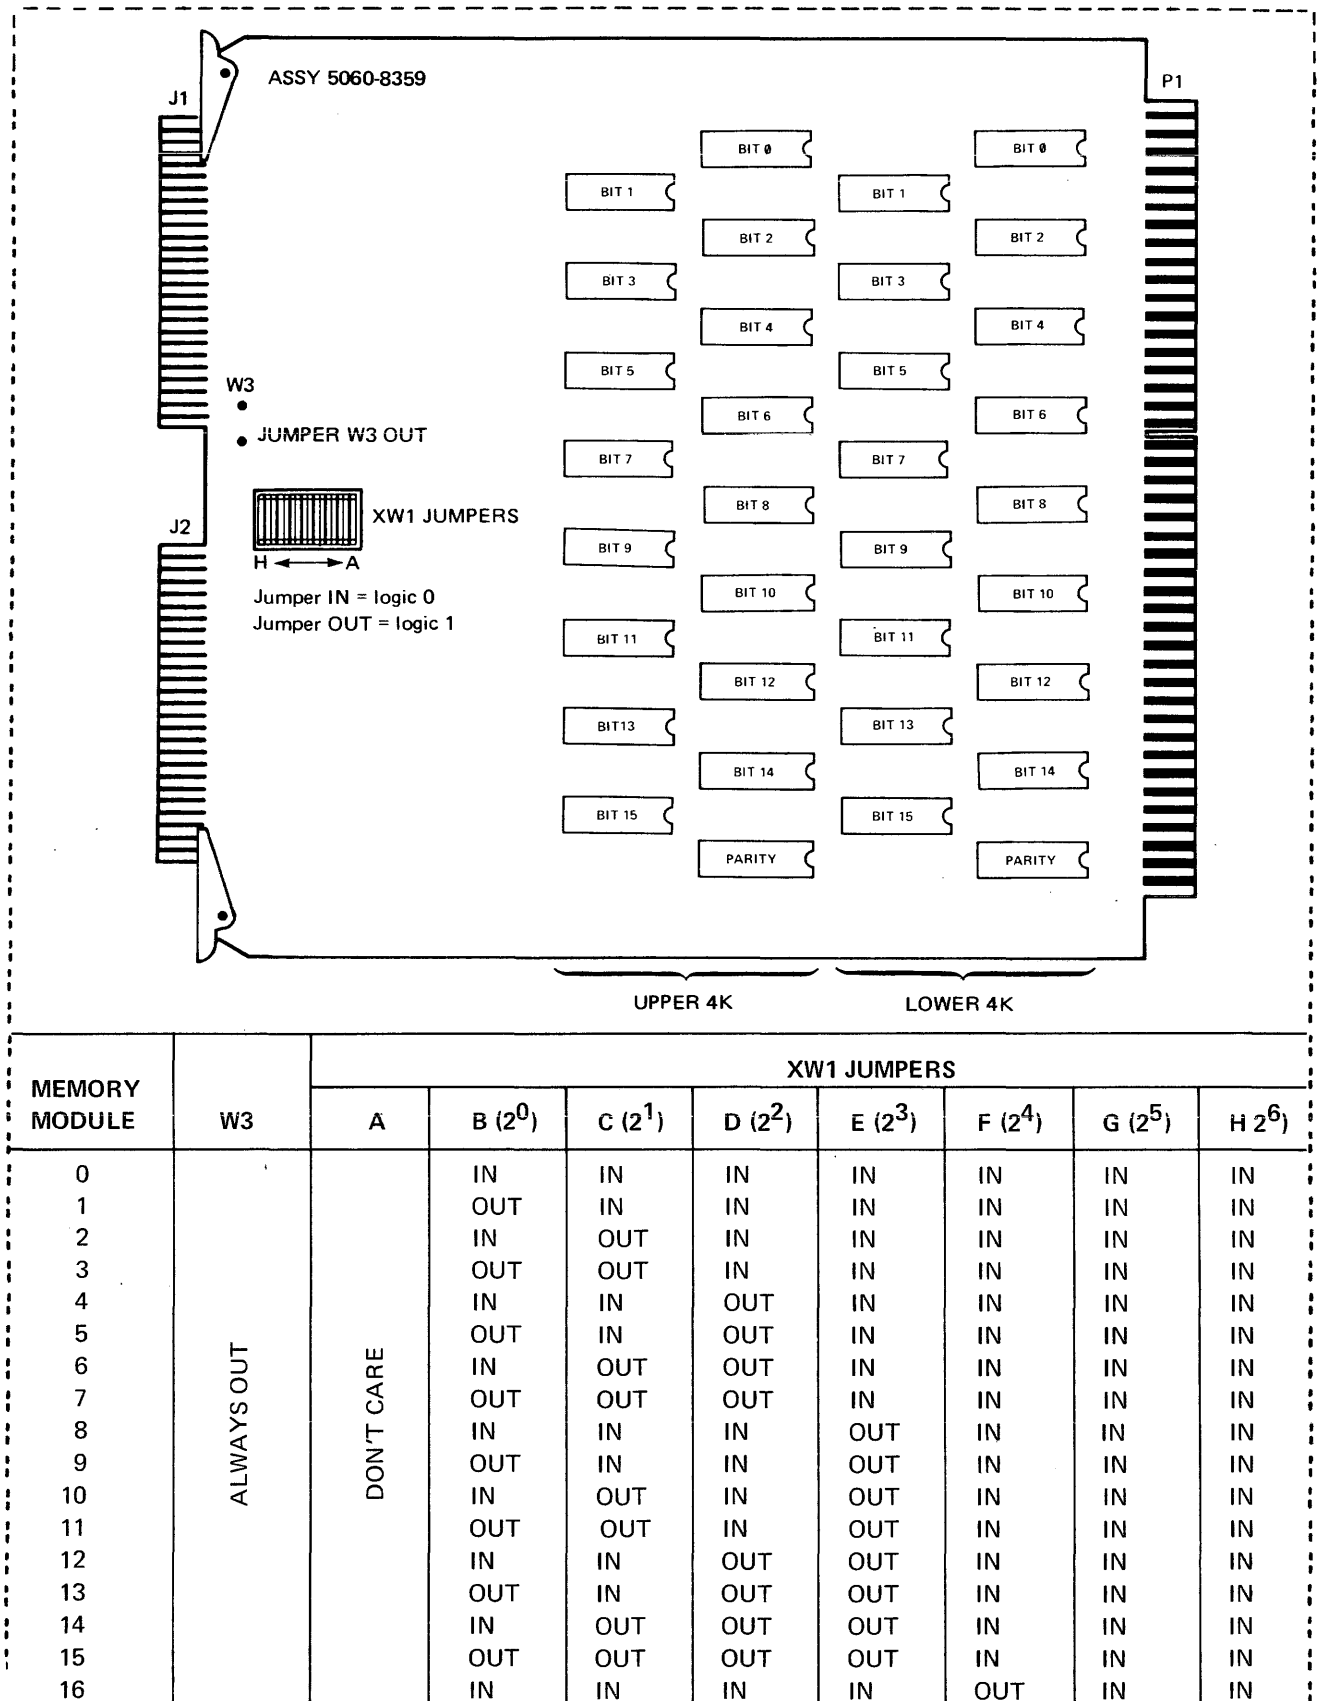

Figure 2-4. HP 2102A 8K Memory Module Address Jumpers
- f. Assign consecutive memory module numbers, beginning with module 0, to the 8K memory modules. Make the module number assignments by installing 8K module XW1 jumpers as specified in figure 2-4.